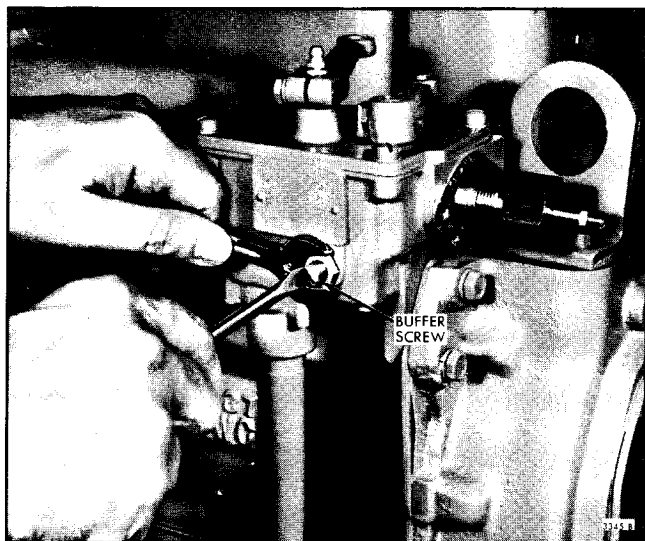

Fig. 6 - Adjusting the Buffer Screw
2. With the engine at idle speed, screw IN the buffer screw, Fig. 6, so that it contacts the differential lever as lightly as possible and still eliminates the engine roll.